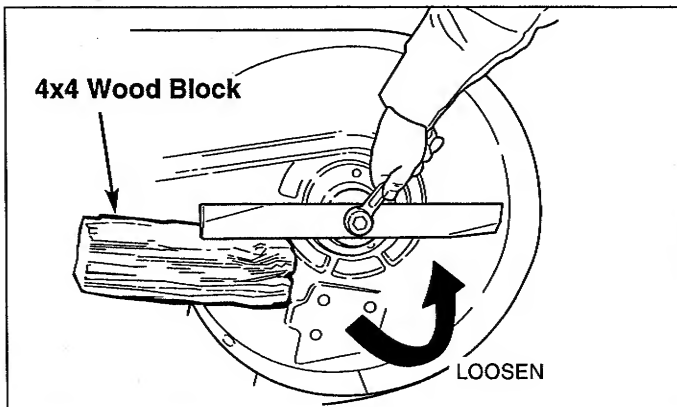

Figure 39. Removing the Blade
3. To remove blade for sharpening, use a wood block to hold blade while removing the blade mounting cap-screw (Figure 39).